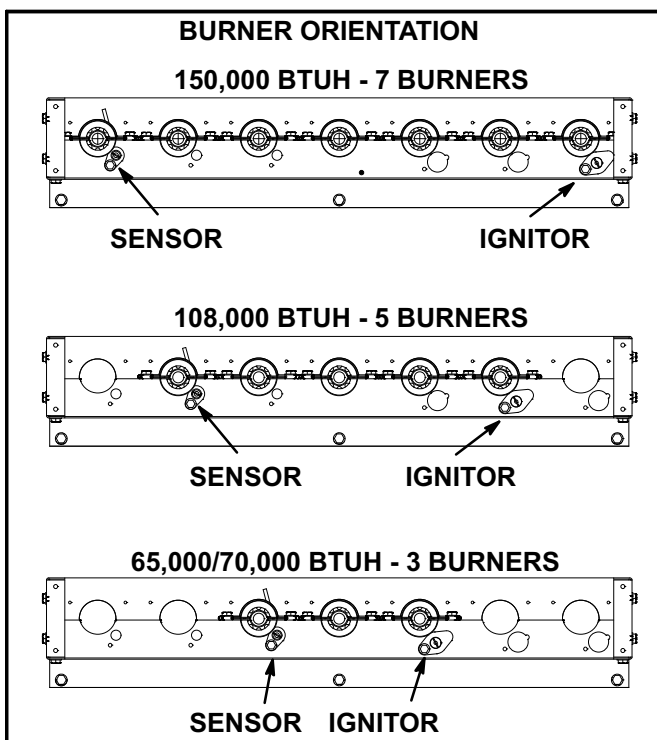

FIGURE 30
- 6- Replace burners and screws securing burner. See figure 30.